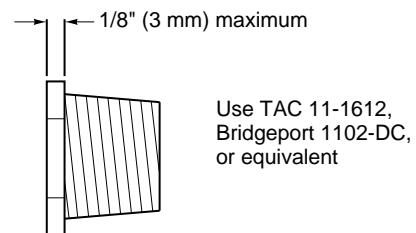
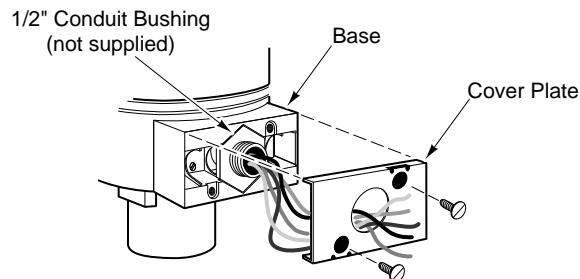

Figure-11 1/2" Conduit Bushing.
Figure-12 Conduit Bushing and Cover Plate Installation.
2. Slip the actuator's leads through a standard 1/2" conduit bushing (Figure-11, not supplied) and the knockout hole in the cover plate. Refer to Figure-12.
**Note:** As shown in Figure-12, the hole in the actuator's cover plate is also sized to accept both British standard M20 (20 mm) conduit connectors and 20 mm-to-PG16 adaptors for use with DIN PG16 connectors. (Follow the steps for installing the conduit box to the actuator.)